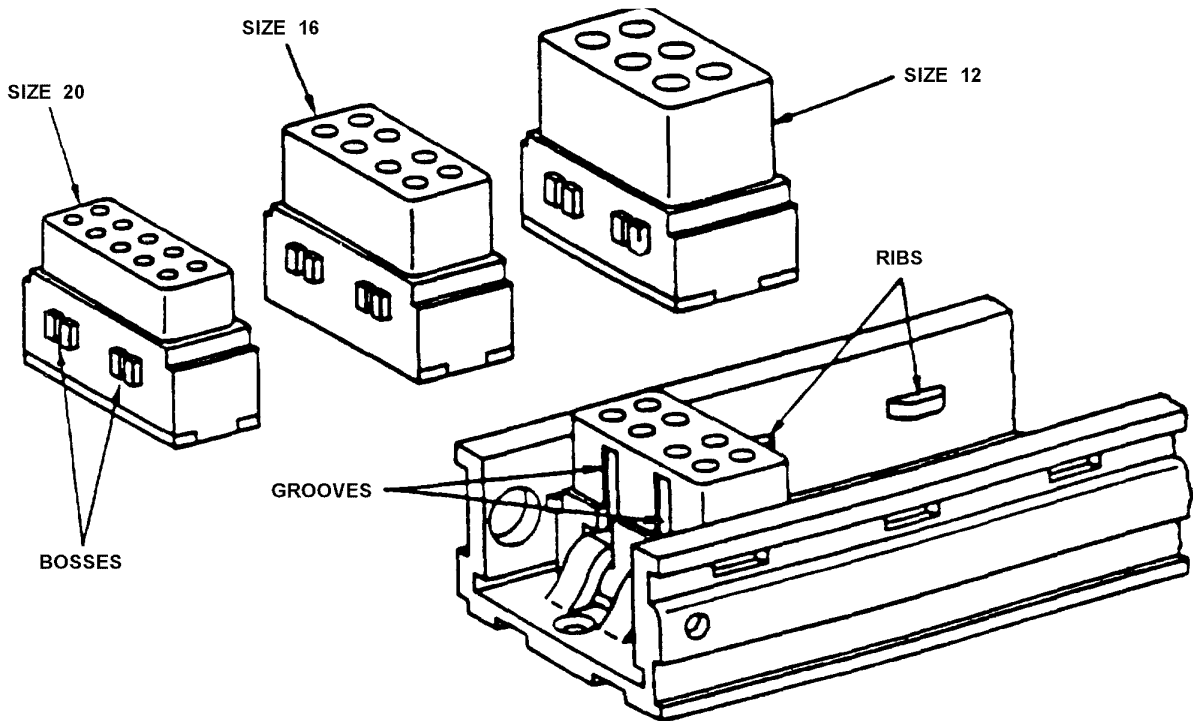

Figure 18. Feedback Terminal Junction Assembly
c. Slide block against the permanent stop at the opposite end of the rail (Figures 18 and 21).